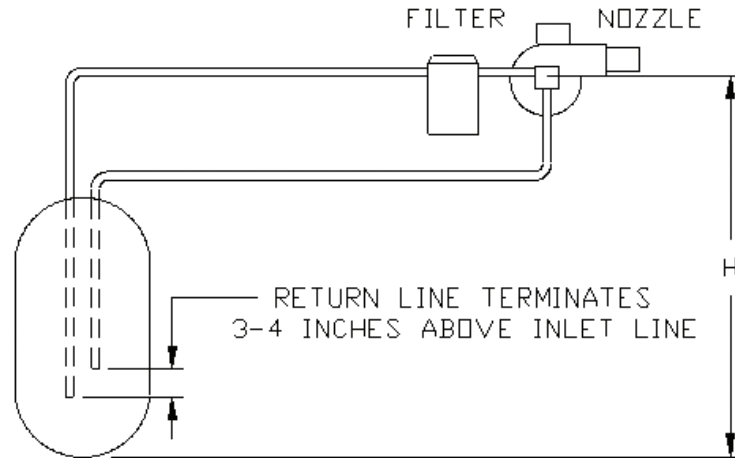

FIGURE 9.4: TWO-PIPE LIFT SYSTEM
- d) TWO-PIPE LIFT SYSTEM - used when a fuel oil storage tank is located below an oil burner fuel pump suction port. See Figure 9.4. The vertical distance from bottom of the tank to center line of the pump (Dimension 'H') must not exceed that shown in the pump manufacturer's instructions. Distance 'H' allowed is reduced by the number of fittings, filters and valves installed in the line.